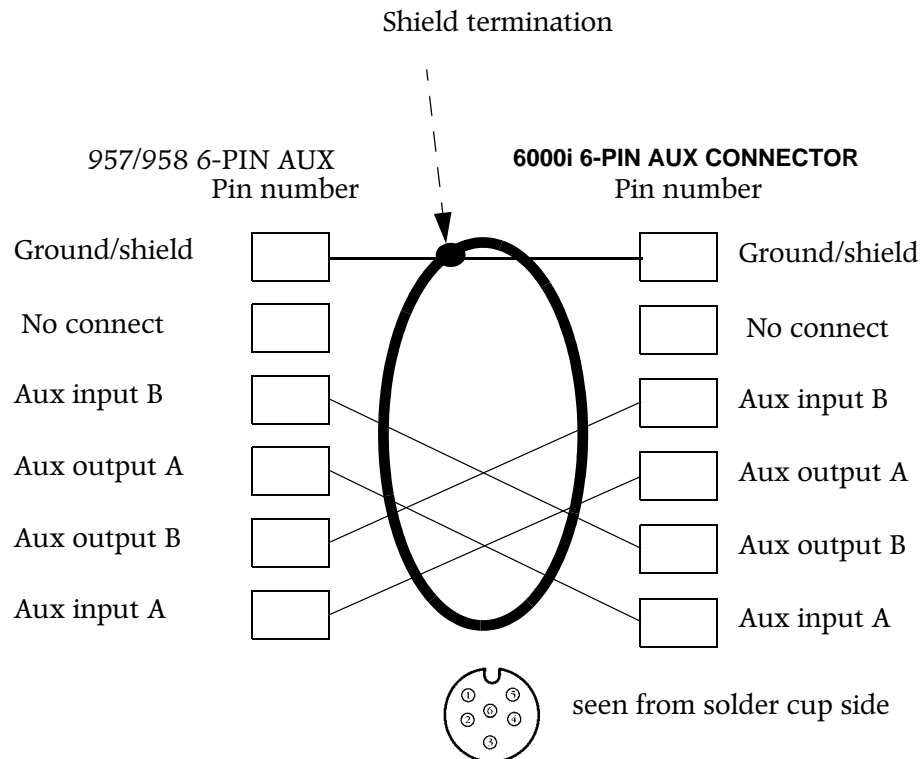
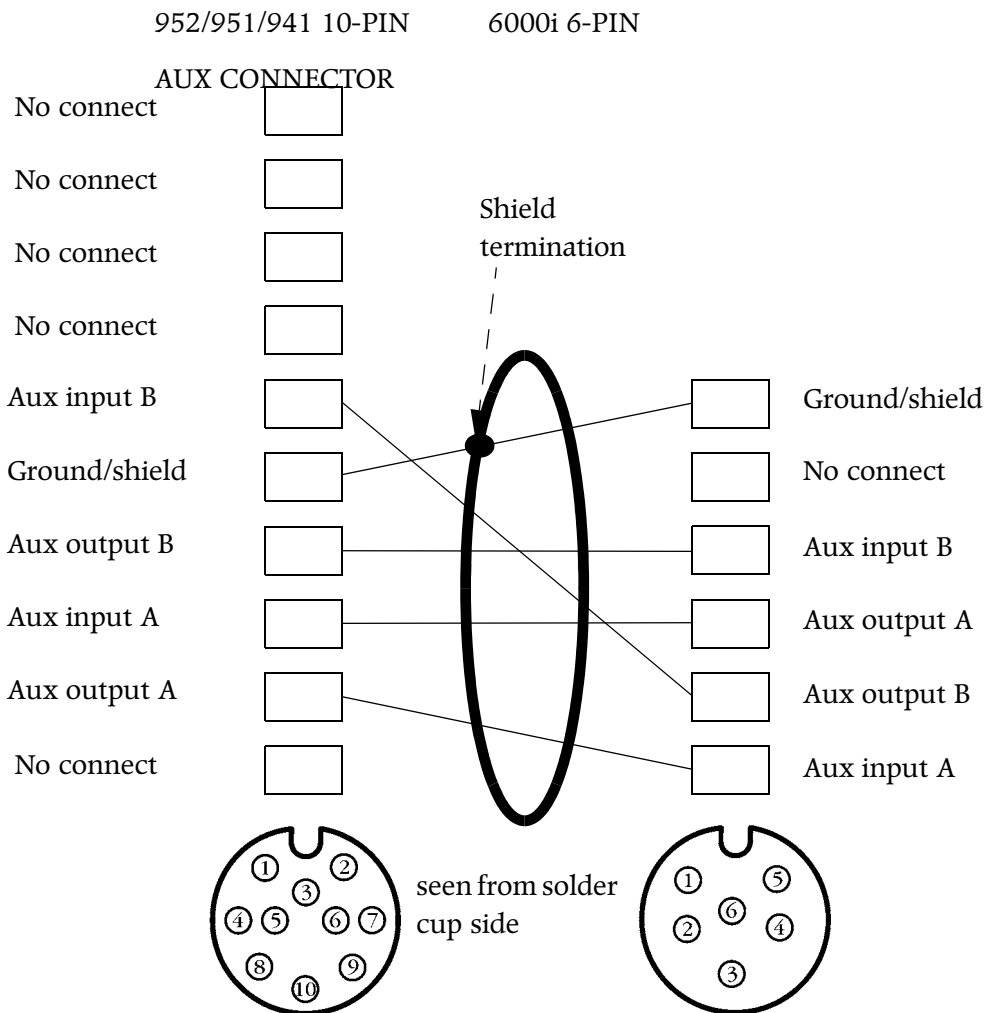

Figure 18: Connection to a 957 or 958
Figure 19: Connection to a 952, 951 or 941
To wire the Aux Port for transferring waypoints see Figure 18 or Figure 19.
For the Aux Port pin configuration, see Figure 18 on page 41.
- For wiring a *6000i* to a 958 or 957, see Figure 18 and Table 12 on page 42.
- For wiring a *6000i* to a 952, 951 or 941, see Figure 19 and Table 13 on page 43.